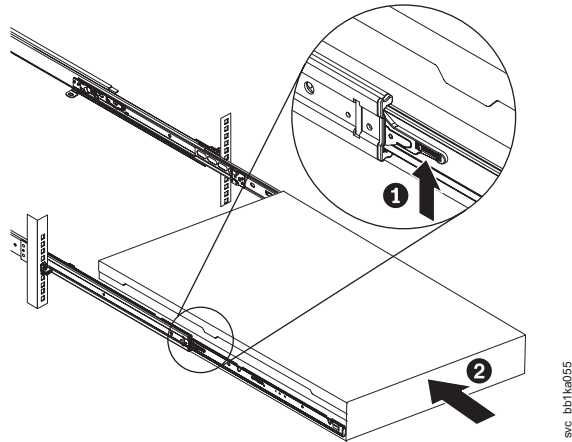

Figure 255. Raising the SAN Volume Controller 2145-CF8 locking levers of the slide rails of the rack
17. Lift the locking levers (**1** in Figure 255 on page 232) on the slide rails and push the server **2** all the way into the rack until it clicks into place.